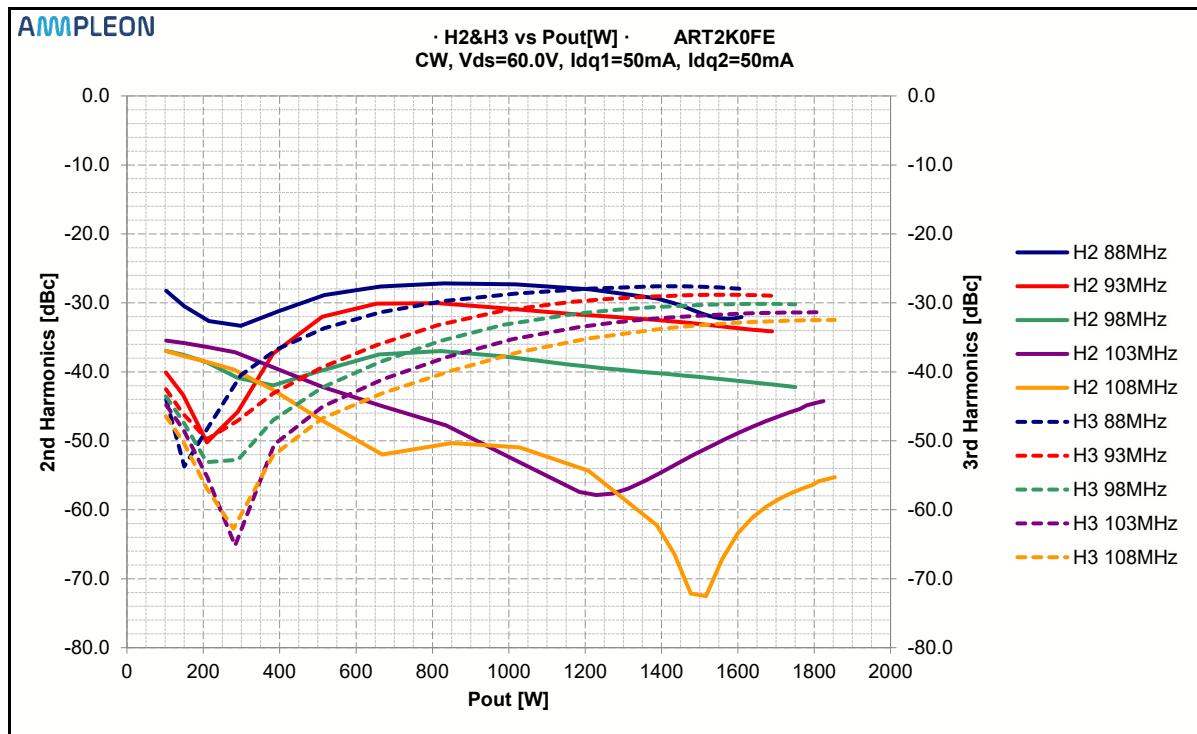

Figure 3 CW (Vds=60V) H2 & H3 vs Pout [W]
- Figure 3 CW (Vds=60V)H2 & H3 vs Pout [W] 7